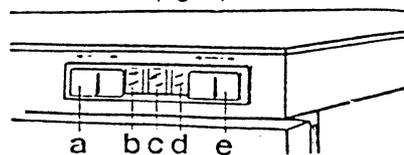

fig. 2
If a non-fused plug is fitted (ref Fig. 2), the wiring must follow the above procedure and the appliance must be protected by the use of a 15 amp fuse either in the adaptor or at the distribution board.
The appliance is fitted with a multi-function control switch (fig. 2).
3. Reverse the top and bottom hinge pins (see Fig. 2 and 3).